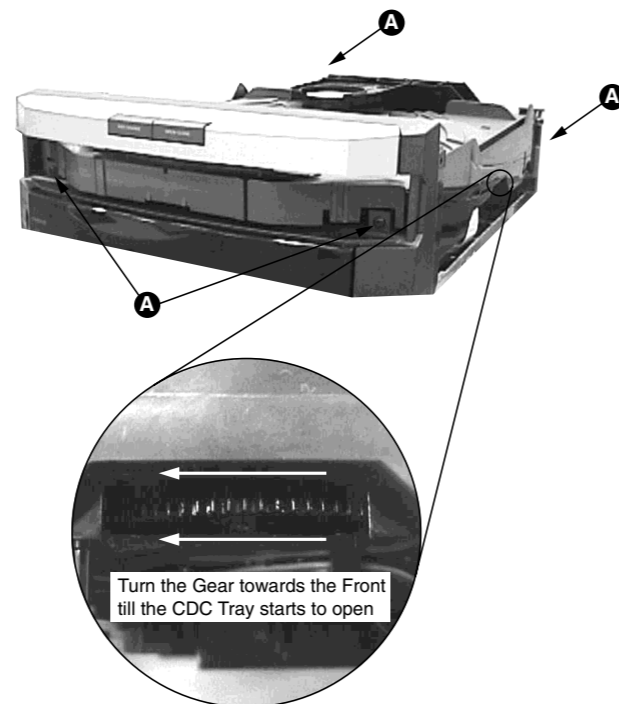

Figure 2
- 1) Loosen the 4 screws, slide Cover top (pos 255) towards the rear and remove it upwards.
- 2) Loosen 3 screws slide the Panel right (pos 254) towards the rear and remove it outwards. Do likewise for the Panel left (pos 253).
- 3) Push the gear slowly towards the front as shown in figure 2 until the CDC tray starts to move out of the Front Cabinet (pos 101). The CDC tray is now disengage and can be pulled out completely.
- 5) Loosen 4 screws A to remove the 3CDC-LC-VCD Module (pos 1104) as shown in figure 2.